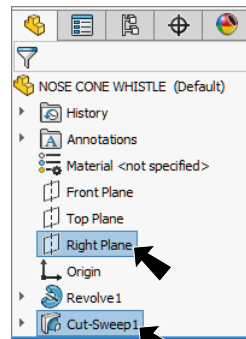

Fig. 24
Step 1. Ctrl click **Right Plane**  and **Cut-Sweep1** in Feature Manager to select both, **Fig. 24**.